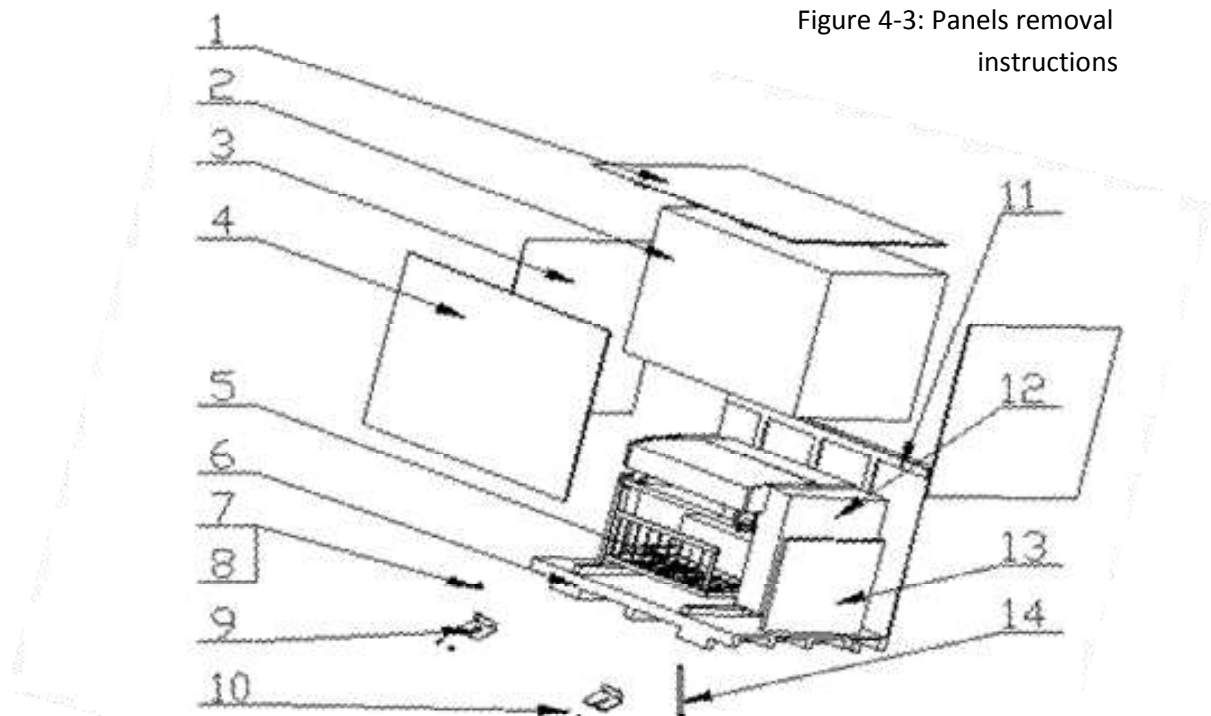

Figure 4-3: Panels removal instructions
4.5.3 Follow the steps to remove the wooden box cover, side panels and pallet base. (as shown in Figure 4-3 and Table 4-1);